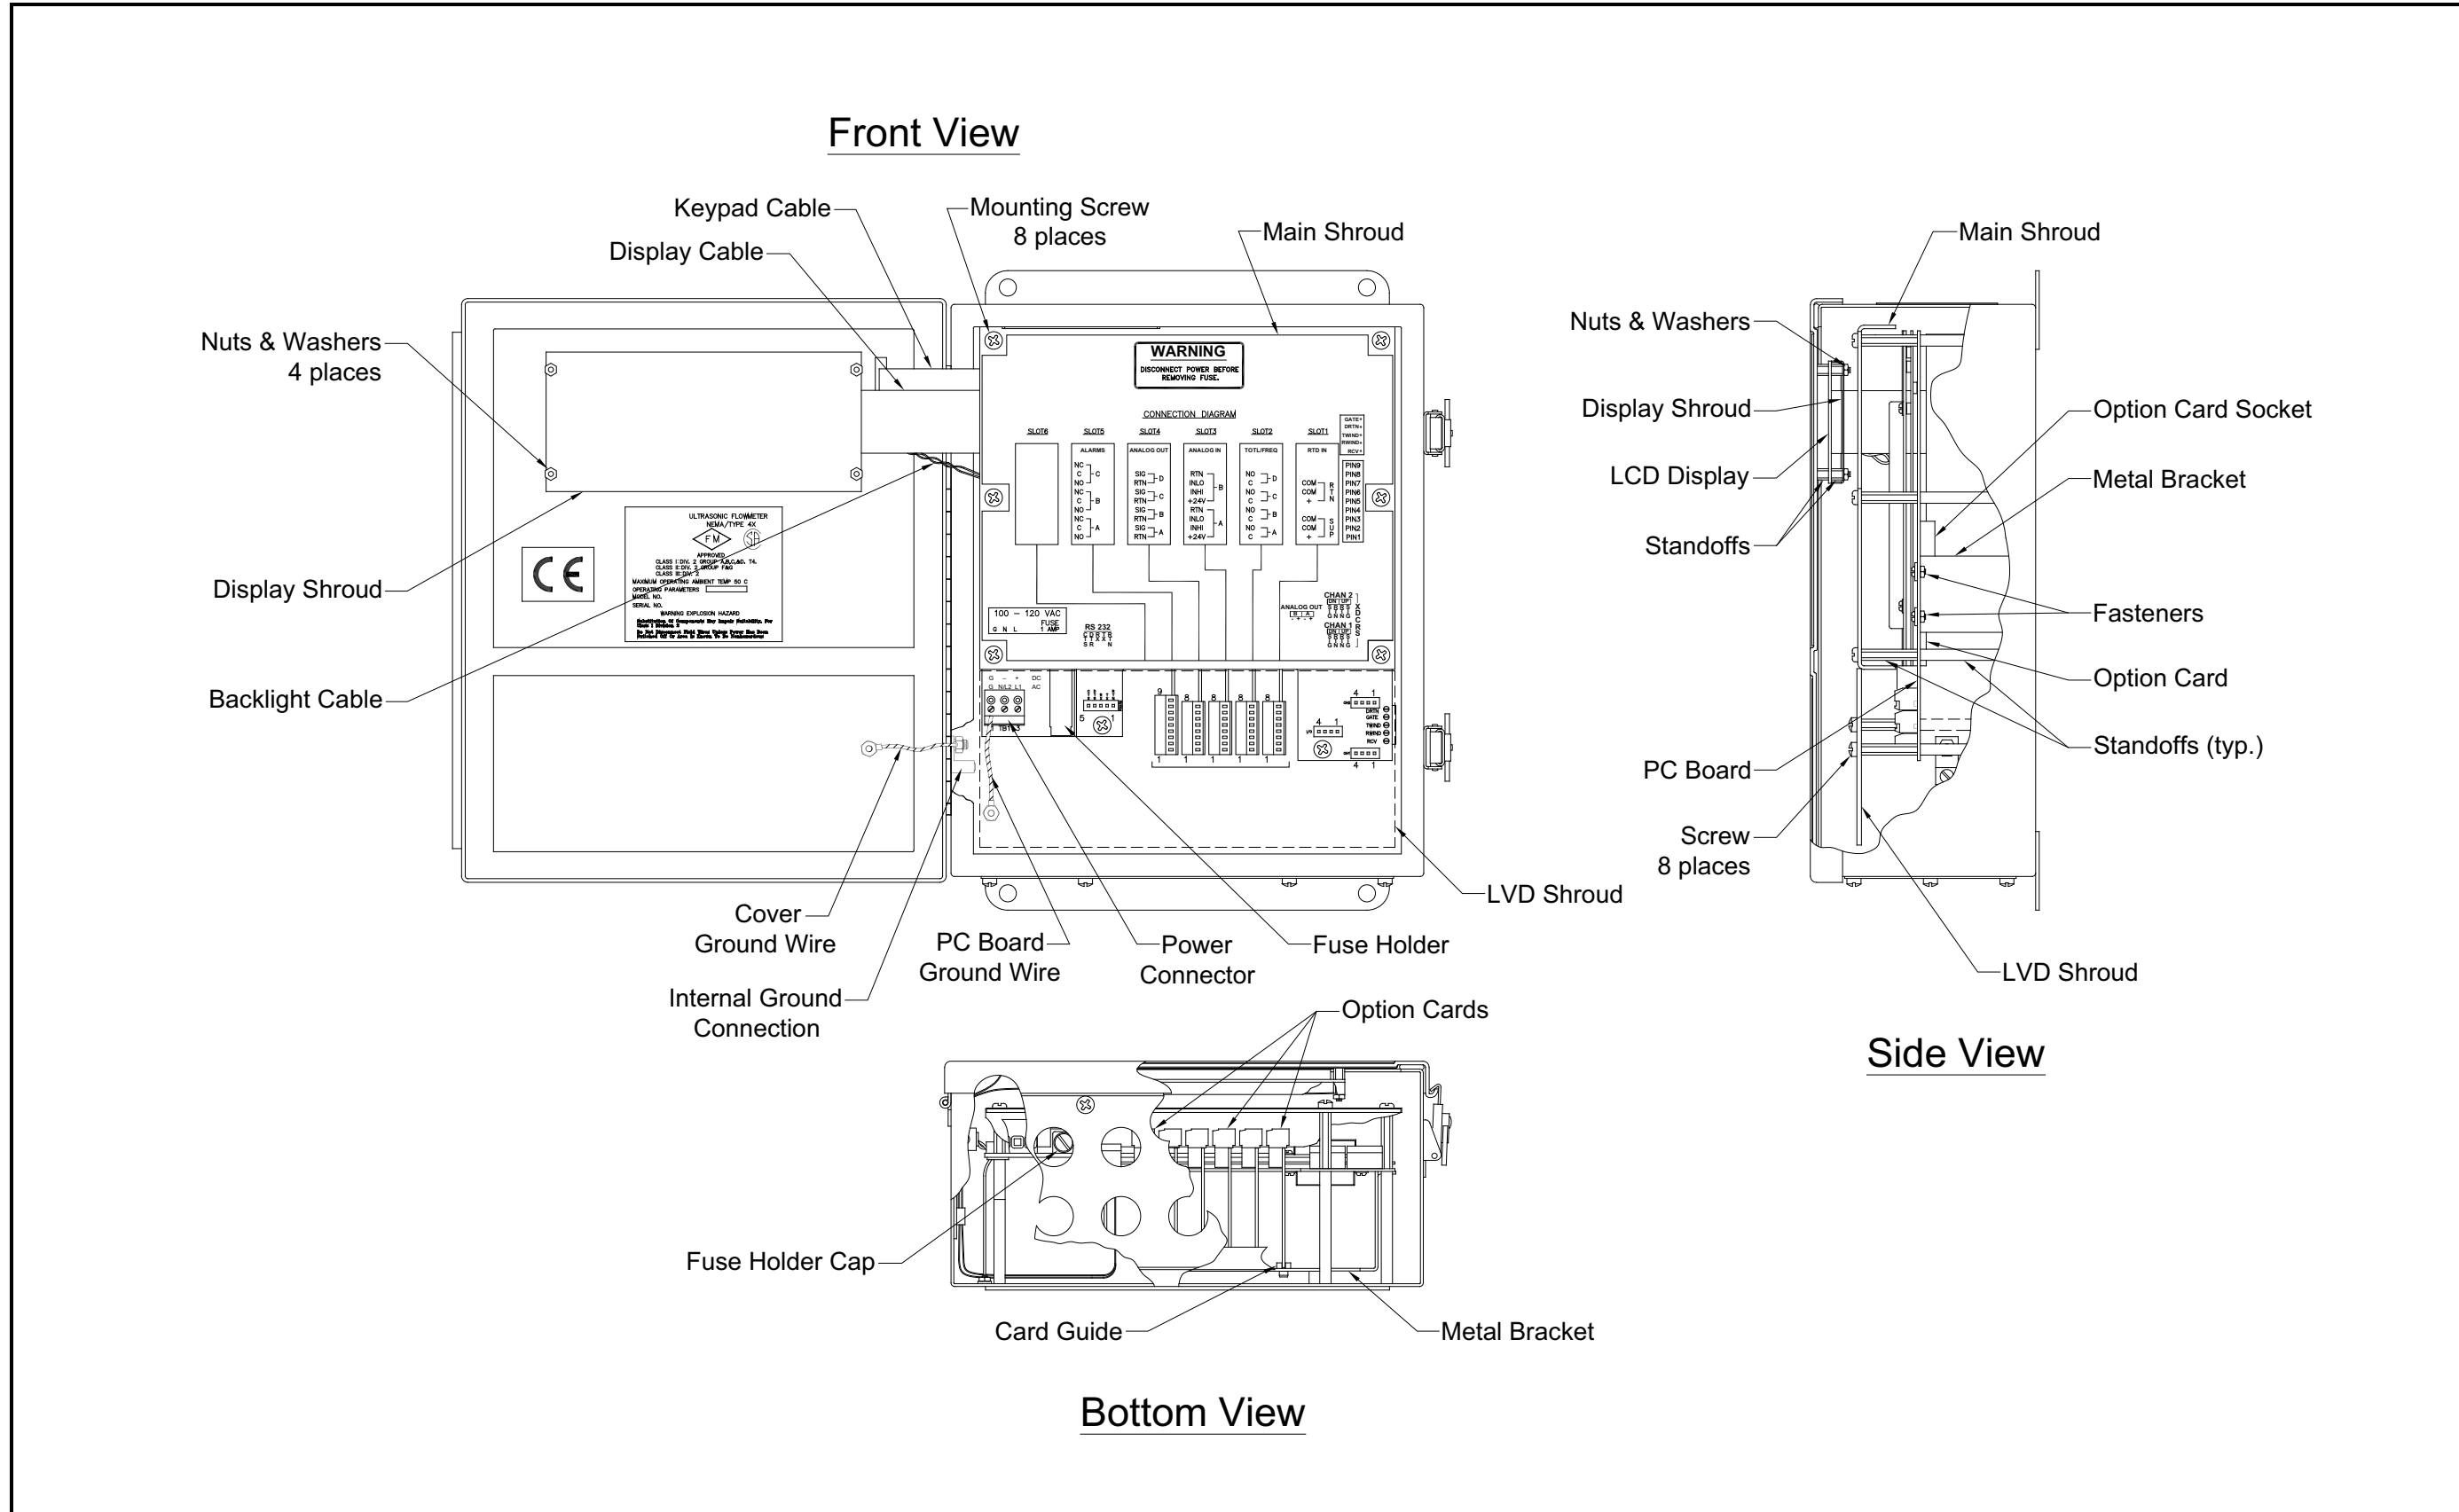
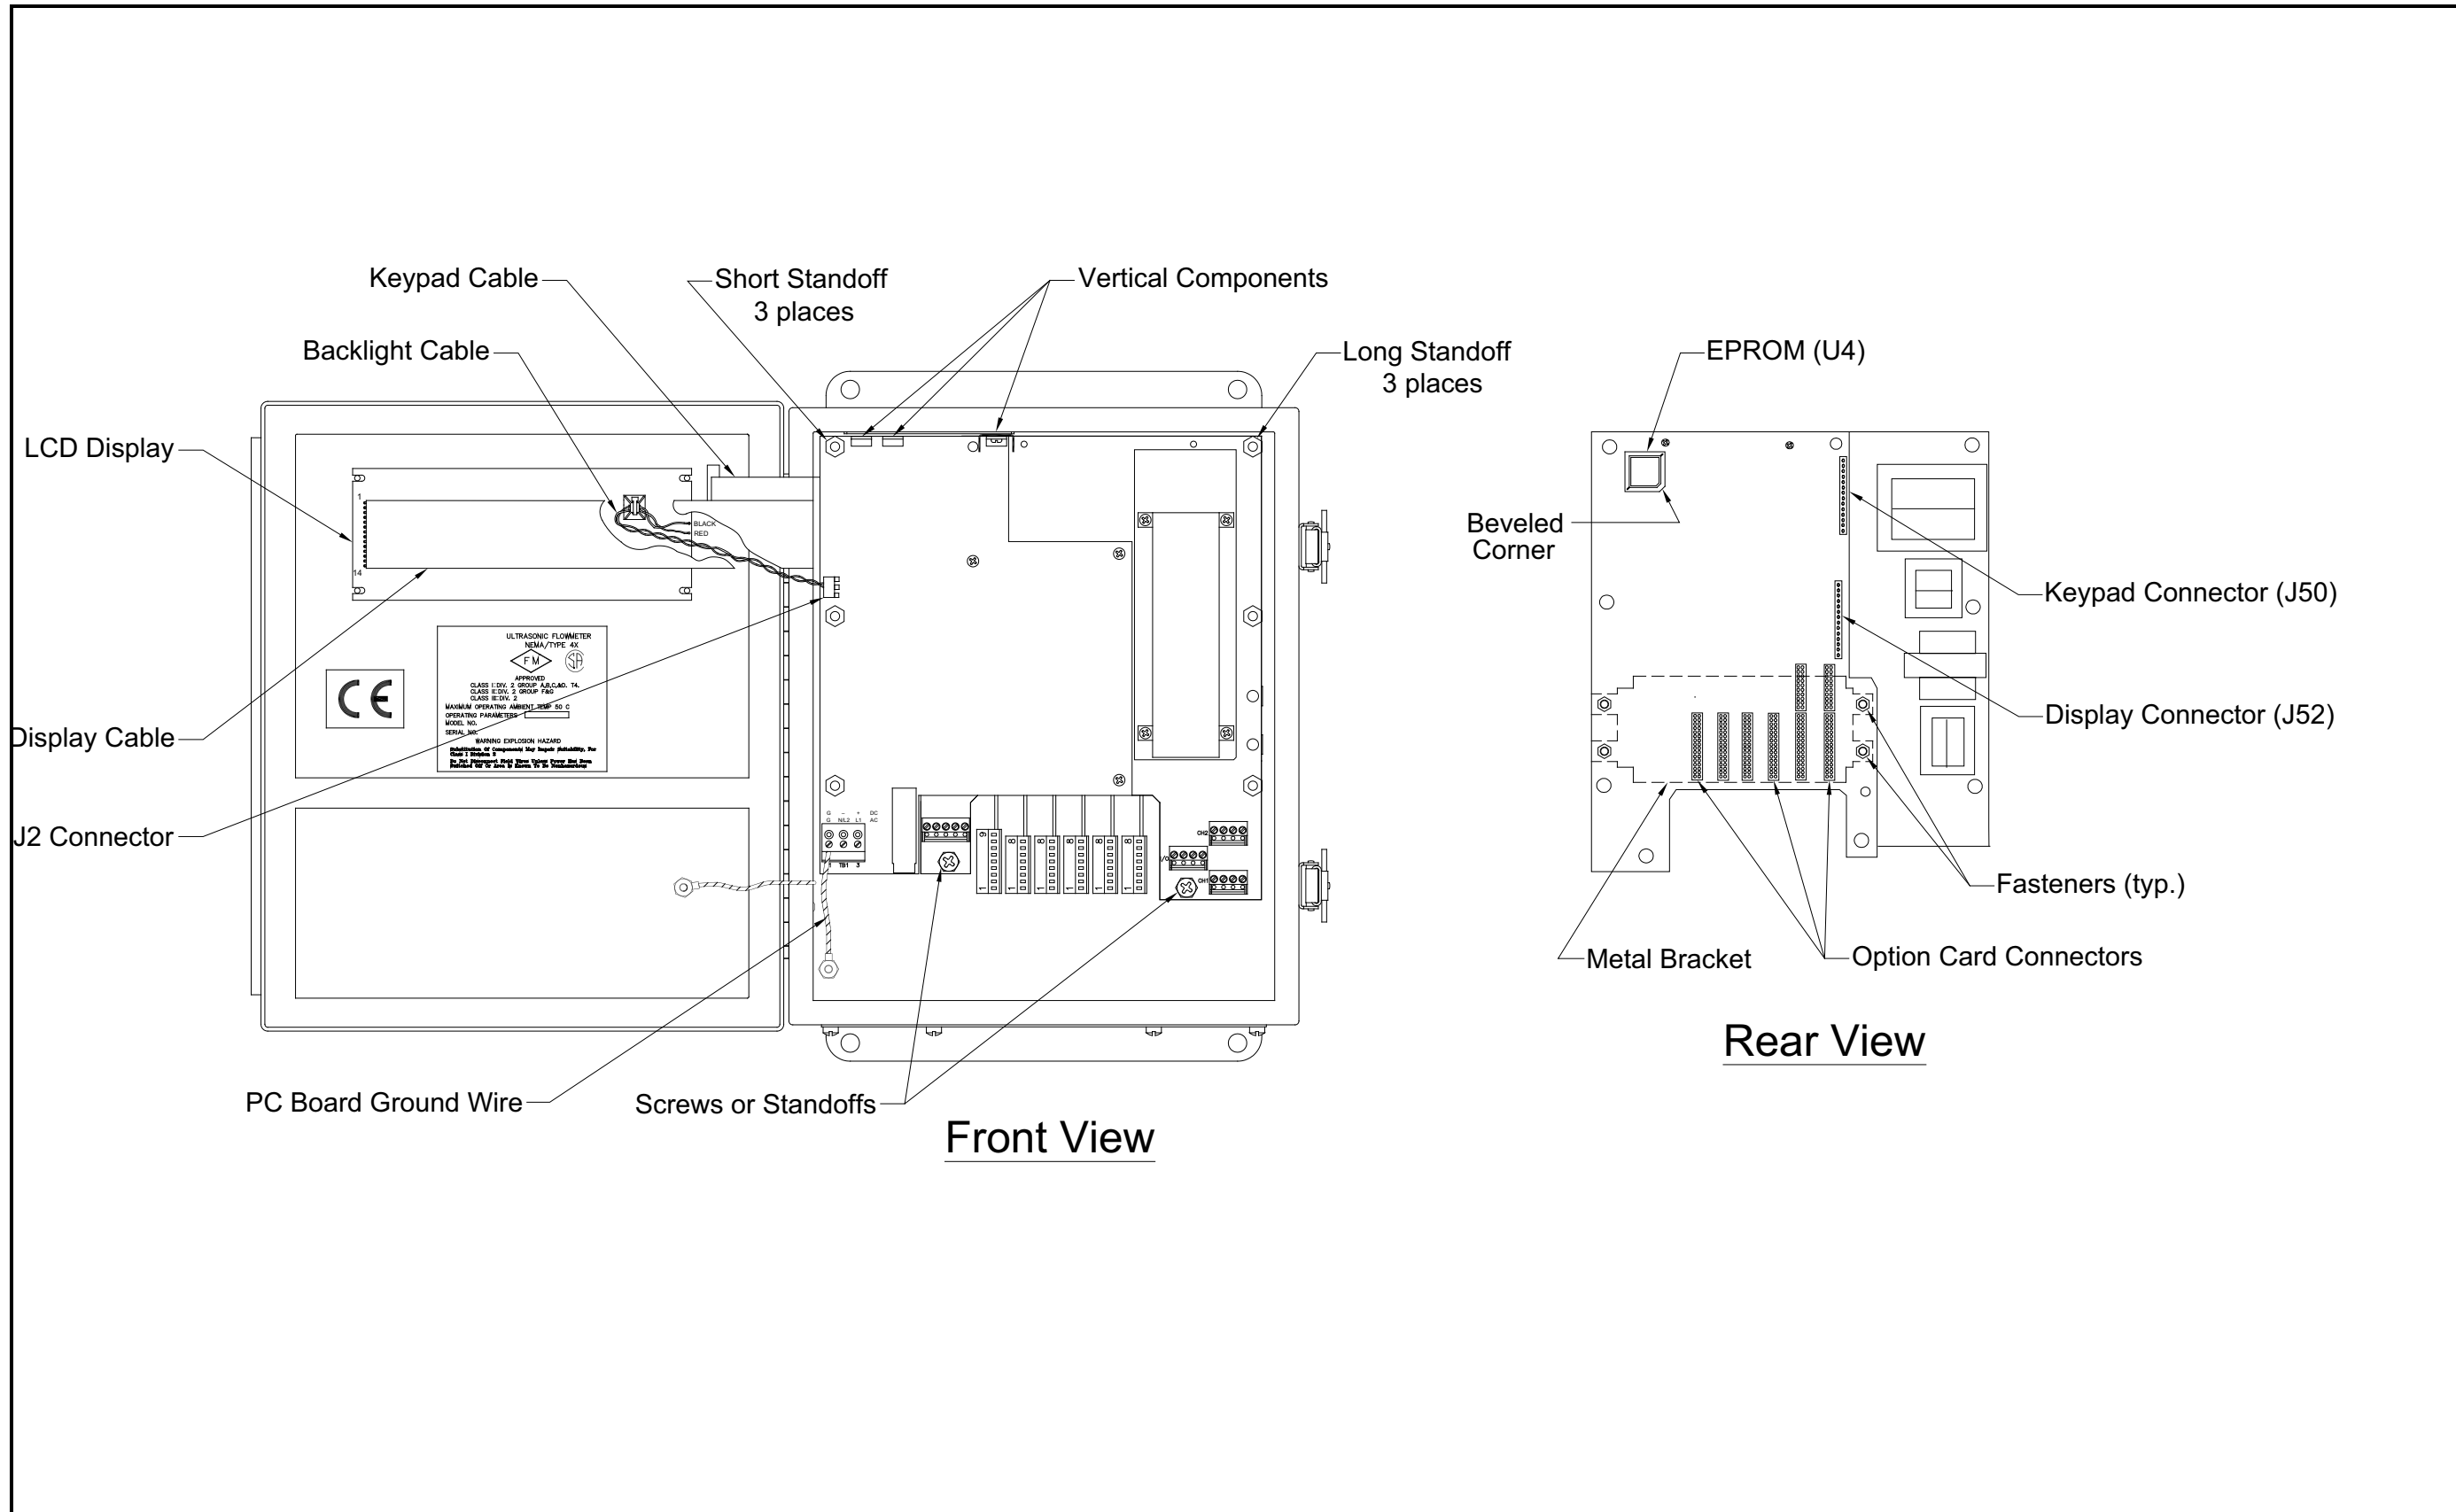

Figure 8: Standard Model GS868 - Electronics Console Assembly
Figure 9: Standard Model GS868 - Printed Circuit Board Assembly
All of the remaining procedures require removal of the printed circuit board. To accomplish this task, refer to Figure 8 on page 39 and Figure 9 on page 40 while completing the following steps:
CAUTION! Be very careful not to damage the vertical components along the top edge of the printed circuit board (see Figure 9 on page 40). Severe or repeated bending of these components will break their leads.
The Model GS868's *User Program* is stored on an erasable programmable read only memory (EPROM) chip. The EPROM, which is designated as component U4, is located in the top left corner of the rear of the printed circuit board. See Figure 9 on page 40 for a rear view of the printed circuit board.
To install an option card, refer to Figure 9 on page 40 and complete the following steps:
5. Place the metal bracket over the option cards, making sure that all option cards are aligned with the plastic card guides in the bracket. Secure the metal bracket to the printed circuit board with the plastic snap rivets provided. Refer to the installed assembly in Figure 8 on page 39.
The Model GS868's measurements are displayed on a two-pane LCD graphic display panel. The LCD display normally provides years of dependable service, but it is easily field-replaceable when necessary. To replace the LCD display, see Figure 8 on page 39 for the component locations, and complete the following steps:
4. Place the new LCD display assembly over the mounting studs on the console cover and fasten it in place with the four standoffs. Make sure that the LCD display assembly is oriented as shown in Figure 9 on page 40.
Whether the printed circuit board was removed for replacement or for one of the other procedures discussed in this chapter, reinstallation of the printed circuit board is the final step in the process. Refer to Figure 8 on page 39 and complete the following steps:
1. Position the printed circuit board within the electronics console with the top edge tilted forward. Insert the display ribbon cable and keypad ribbon cable connectors into their sockets on the rear of the printed circuit board. See Figure 8 on page 39 and Figure 9 on page 40 to identify the cables and sockets. Note that the keypad cable connects to the upper socket and the display cable connects to the lower socket.
During this procedure, be very careful not to damage the upright components along the top edge of the printed circuit board (see Figure 9 on page 40). Severe or repeated bending of these components will break their leads.